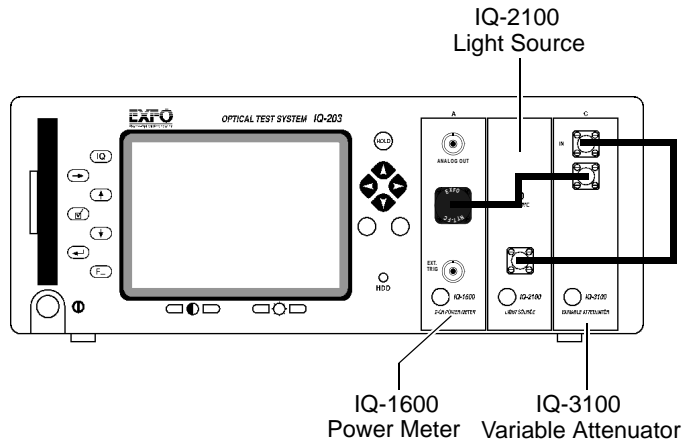

Figure 8-5. Confirming Attenuator Linearity
1. Disconnect the IQ-1600 from the circuit shown in Figure 8-5 and replace it with the detector being tested.